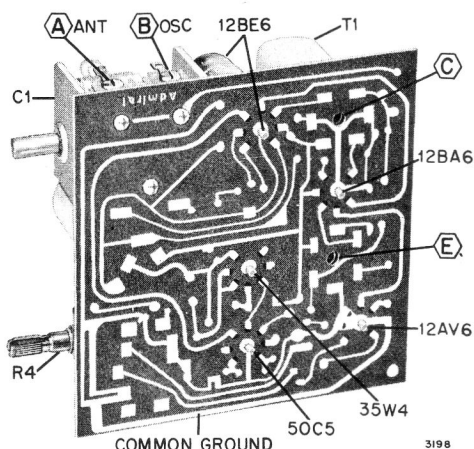

Figure 1. Bottom View of Chassis.
- Use an isolation transformer if available; otherwise, connect a .1 mfd. capacitor in series with low side of signal generator and connect to common ground (see figure 1).
*Adjustments "C" and "E" made from underside of chassis; see figure 1.